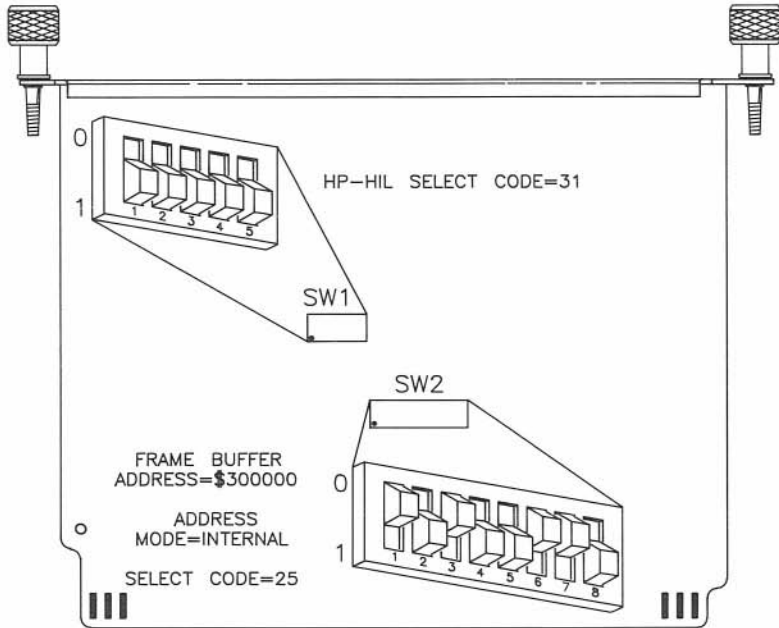

Figure 5-2. Graphics Display Station Interface switches.
The Graphics Display Station's HP-HIL Interface is not currently supported by any Series 300 operating system. Therefore, you do not need to change the HP-HIL select code switches (SW1), even if you have two Graphics Display Stations. Leave them set to 31, as shown in Figure 5-2, and go on to step 3.
If this is the first (or only) Graphics Display Station Interface you are installing, you can skip to step 4. Your frame buffer address is preset to \$300000 (in hexadecimal), as shown in Figure 5-2, and need not be changed.
- a. Find the set of eight switches labeled SW2 on the Graphics Display Station Interface (see Figure 5-2). Switches 1 and 2 in this group determine the frame buffer address.
- a. Find the set of eight switches labeled SW2 on the Graphics Display Station Interface (see Figure 5-2). Switch 3 in this group determines the addressing mode.
- If you want to use the Graphics Display Station as the system console, or if it is your *only* bit-mapped system display, set switch 3 to **0**, as shown in Figure 5-2 (see Important! note below). This places the Graphics Display Station at *internal address* \$560000 (in hexadecimal). If you have two Graphics Display Stations, only one of them may be set to internal addressing mode.
- To use the Graphics Display Station as a graphics output device *only*, set switch 3 to **1**, which is opposite the setting shown in Figure 5-2. This places the Graphics Display Station at the *external address* (i.e., select code) specified in the next step.